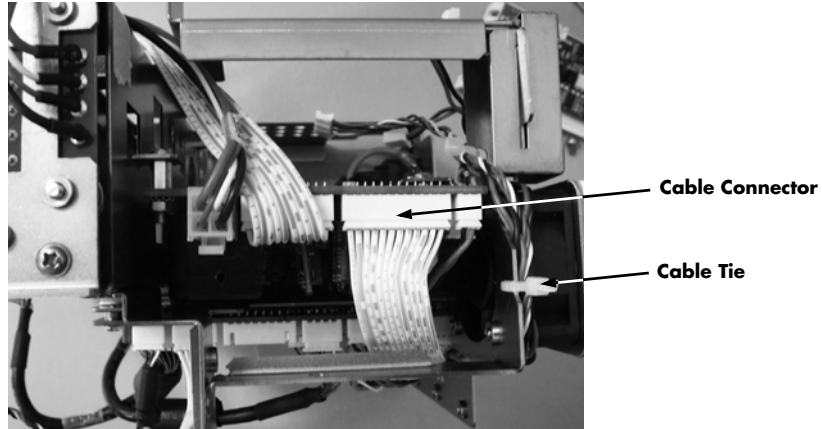

FIGURE 4-18 Unplug the Main board cable connector and cut one (1) tie wrap.
1. Unplug the Main board power cable from the power supply as shown in FIGURE 4-18.
2. Cut the tie wrap to the speaker as shown in FIGURE 4-18.